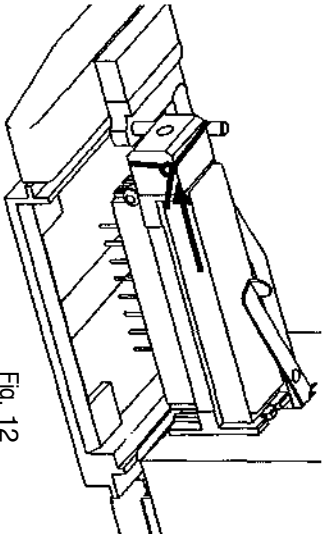

Fig. 12
- Remove the tie blocking the manifold on the left side (fig. 12) : push the tie to the left. Remove the tie from the vertical shaft.
- Turn blocking device as shown on fig. 12 and ensure to not hinder the manifold Up/Down motion.